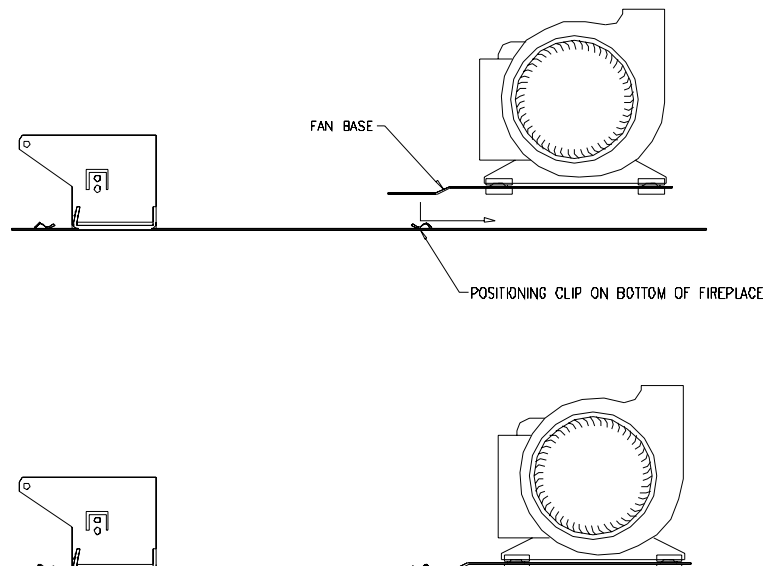

Figure 5.6 - Fan Installation
4. Slide the fan assembly into the opening towards the rear. Turn the fan 90° counter-clockwise and move the fan toward the left. Line up the clips on the bottom of the unit with the two (2) square holes in the fan base. Slide the fan towards the rear of the unit until the clips engage into the slots in the fan base (see Figure 5.6).